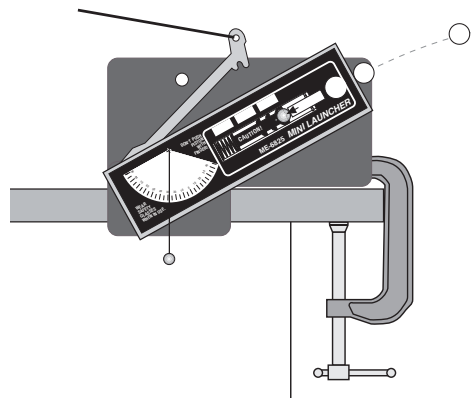

Figure 1.1: Setup to shoot horizontally off table
- ① Clamp the Mini Launcher near one end of a sturdy table as shown in Figure 1.1.
- ② Adjust the angle of the Mini Launcher to zero degrees so the ball will be shot off horizontally.